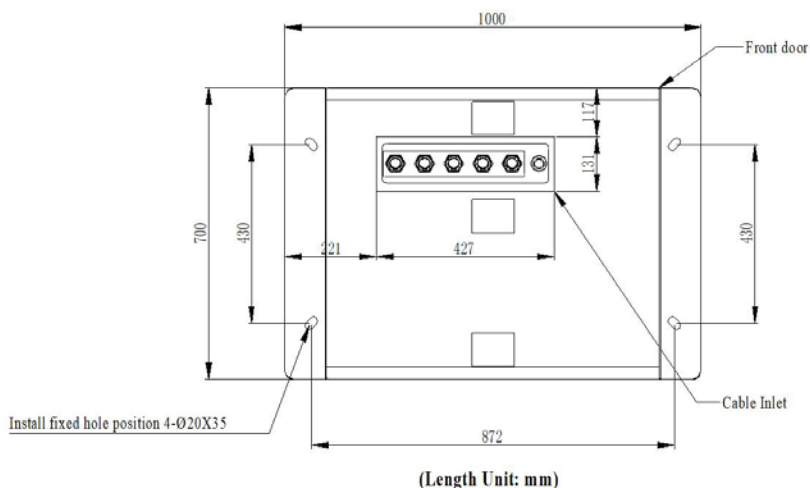

Figure 3.4.2-A
- The hole size is shown in **Figure 3.4.2-A**.